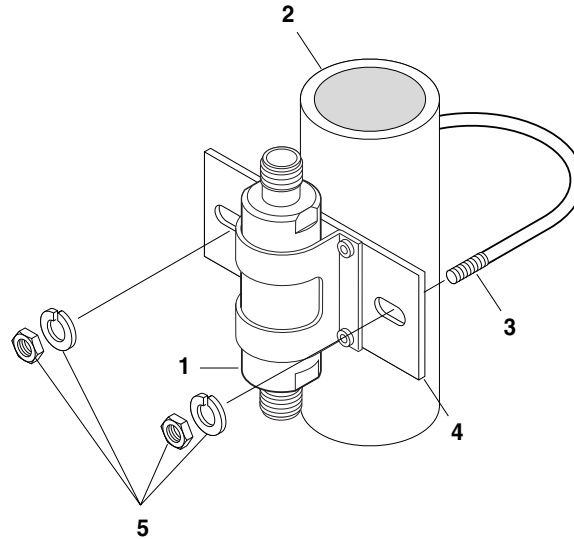

Figure 5. Pole Mounting the Line Amplifier
Refer to Figure 5. To mount the amplifier (1) on a pole (2), place the U-bolt (3), (customer-supplied) around the pole and slide the ends of the U-bolt through the oblong slots in the mounting plate (4). Place lock washers and nuts supplied with the U-bolt (5) over each threaded end of the U-bolt and tighten the nuts down securely.